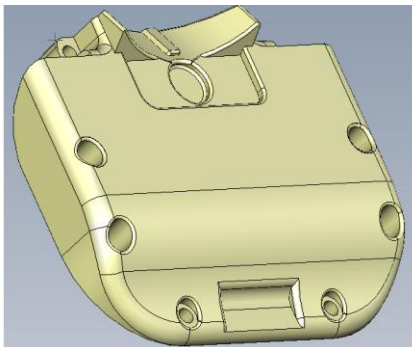

Figure 6: SecurNozzle Battery Cover
Step 4: Place the battery cover in its place as indicated in Figure 6.